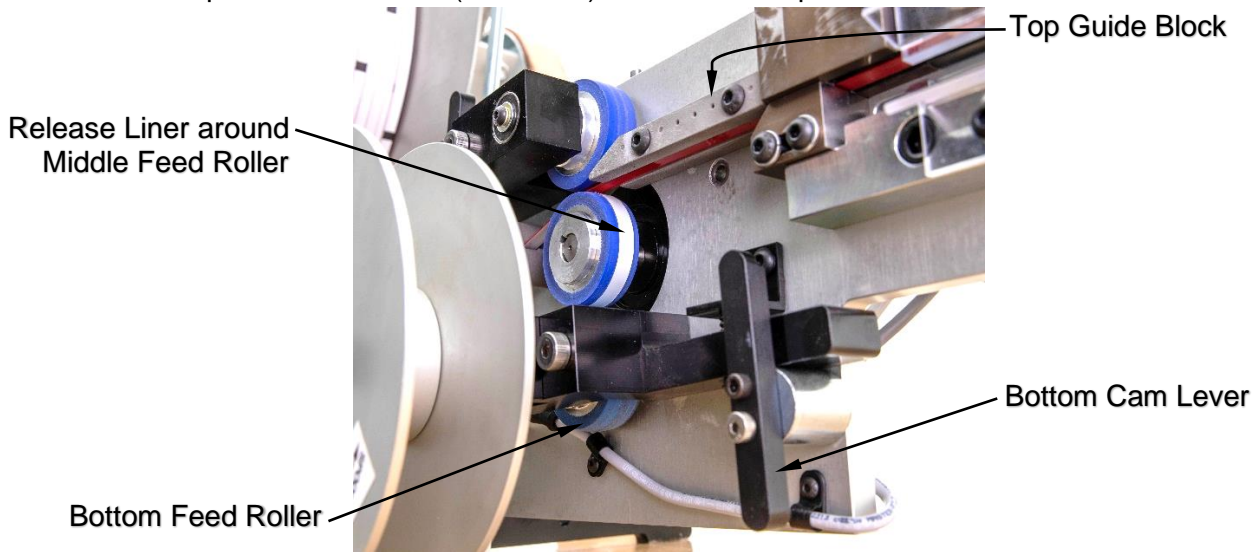

Figure 3.9
- J. Turn the Bottom Cam Lever counterclockwise to open the Bottom Feed Roller. Pull the release liner tightly around the Middle Feed Roller (Figure 3.9). Then turn the Bottom Cam Lever back (clockwise) to close the Bottom Feed Roller.
- L. Make sure the tie is sitting in the groove of the Top Guide Block (Figure 3.9). Replace the Bottom Guide Block and Quick Pin.